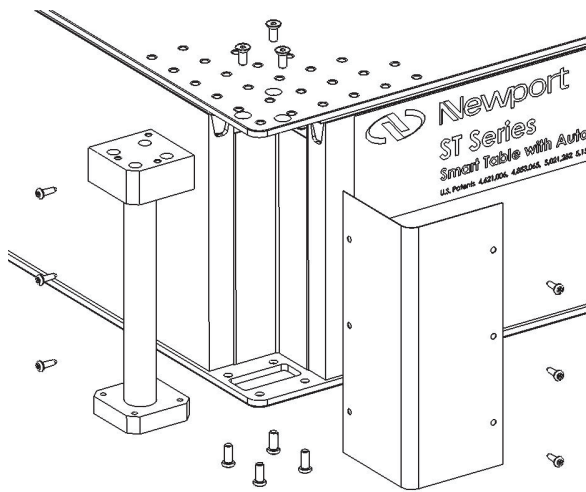

Figure 3: ST-UT or ST-UT2 Series table with IQ damping upgrade
4. Install the damper by inserting it into the position that the spacer was in (See figure 3 below). Orient the IQ damper so the mounting holes line up.